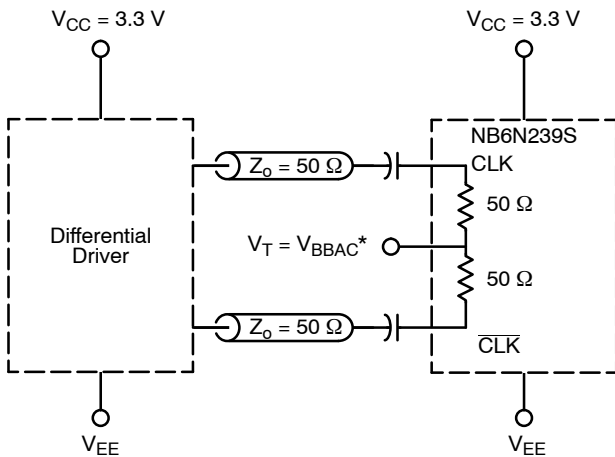

Figure 16. Capacitor-Coupled Differential Interface (V_T Connected to V_{BBAC})
6. V_{BBAC} used to rebias capacitor-coupled inputs only (see Figures 16 and 17).